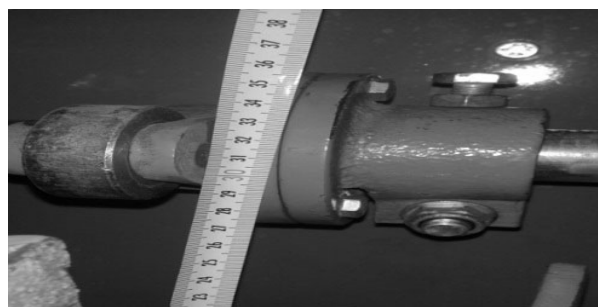

Figure 46: Wedge Pin
- Upper pot pin centre of knotting system must be at 31 cm range to lower chassis (This adjustment as spacing should be 26,5-27,5 cm on wired machines, not go down below 26,5 cm absolutely.) (Figure 46)